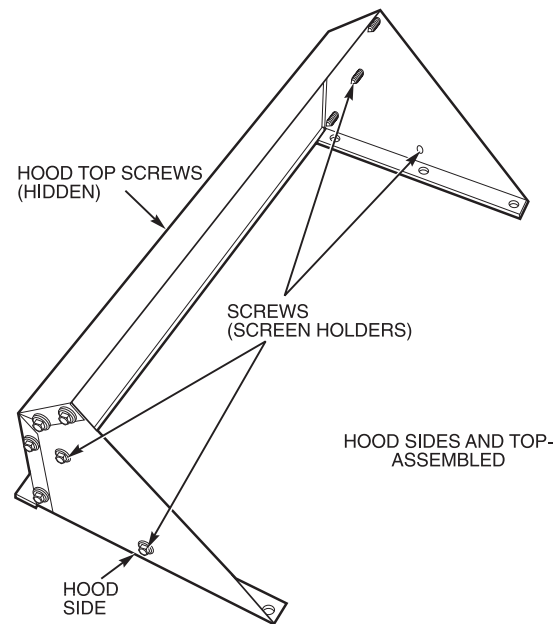
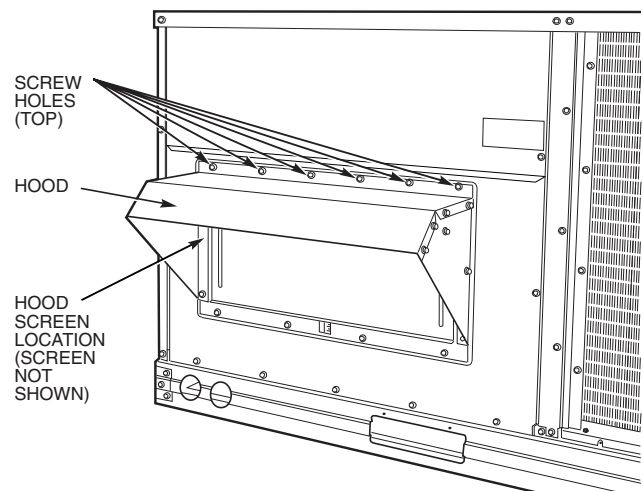

Fig. 15 — Outdoor-Air Hood Details
Fig. 16 — Optional Manual Outdoor-Air Damper with Hood Attached
5. Place hood on front of outdoor air opening panel. See Fig. 15 for hood details. Secure top of hood with the 6 screws removed in Step 3. See Fig. 16.
7. Align screw holes on hood with screw holes on side of manual outdoor-air damper. See Fig. 15 and 16. Secure hood with 8 screws from Step 6.
9. Remove and save screws currently on sides of hood. Insert screen. Secure screen to hood using the screws. See Fig. 16.